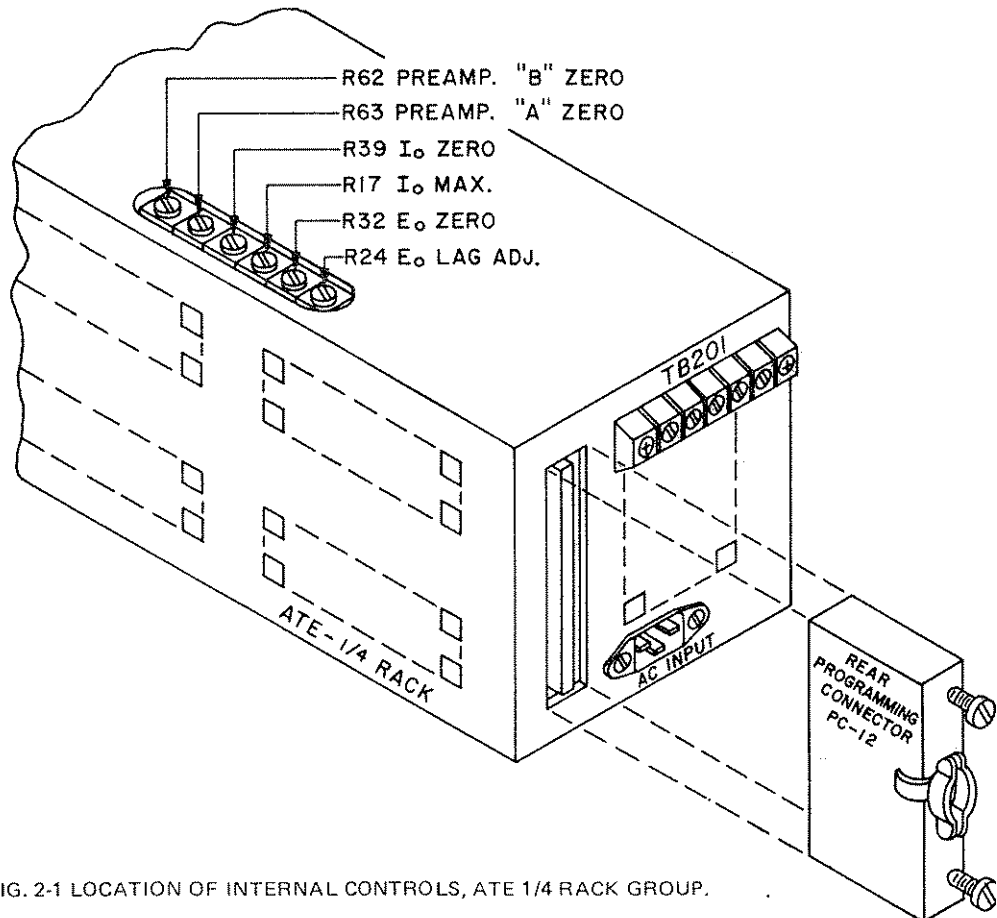

FIG. 2-1 LOCATION OF INTERNAL CONTROLS, ATE 1/4 RACK GROUP.
- c) INTERNAL CONTROLS: Refer to FIG. 2-1 and Table 2-1.
- 2-19 LAG NETWORK ADJUSTMENT. The ATE power supply operating in the "fast" mode, is dynamically stabilized by means of an internal lag network ( $E_o$  LAG, R24, see FIG. 2-1 for location). This control should be adjusted, for each application, by monitoring the load with an oscilloscope and turning the LAG control for best output response and maximum dynamic stability under all operating conditions.